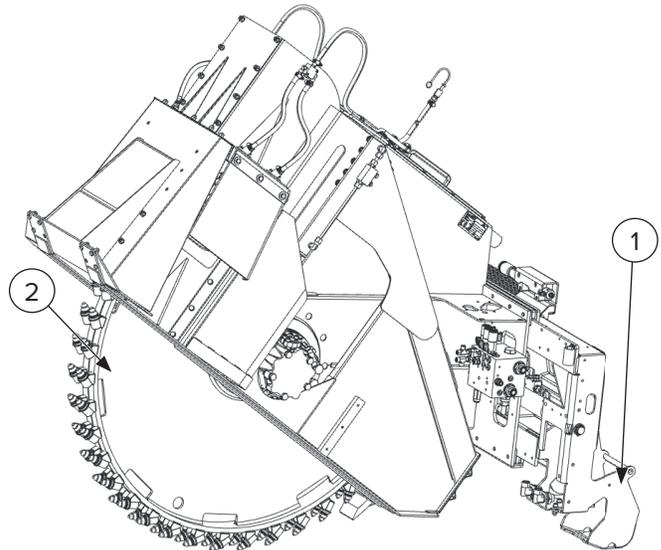

Figure 14
2. Place the attachment on the ground with the machine’s lift arms fully lowered, tilt back the mount plate, and rest the support feet [Figure 14, Item 1] on the ground, keeping the cutting wheel slightly raised from the ground.